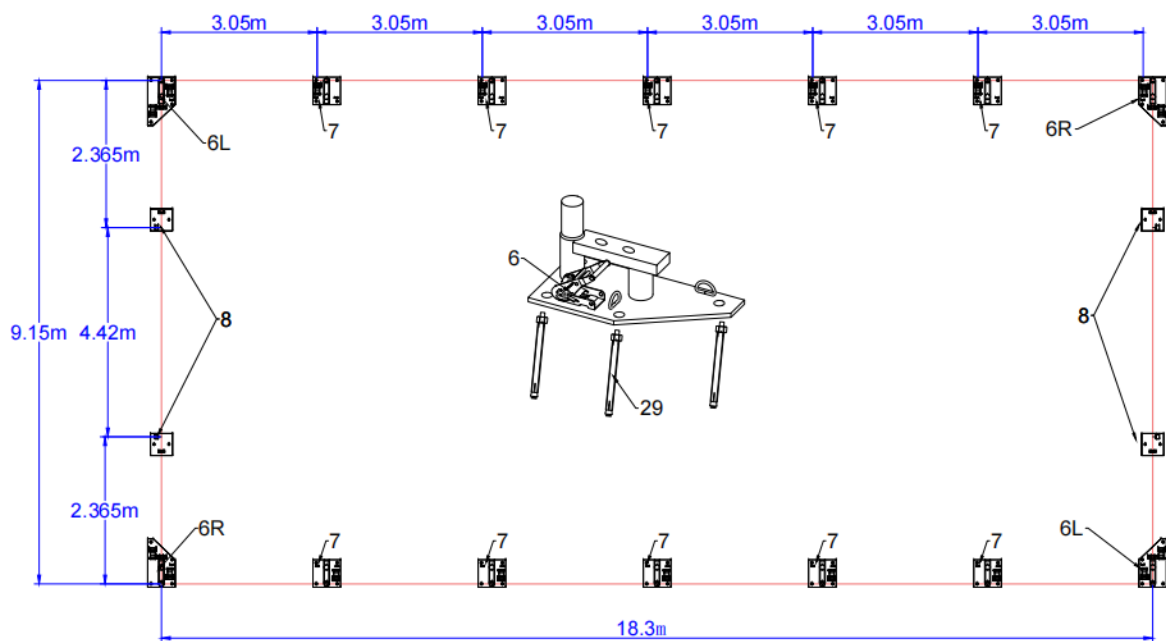

Figure 2: Foundation Placement
Please refer to the diagram (Figure 2) to place the baseplates.
2. As Figure 2 shows, each base plate is equipped with 4 pieces of expansion screw. Mark the expansion screw hold through the base plate by using the expansion screw. Move the base plates away and the mark determines where the expansion screw will be.